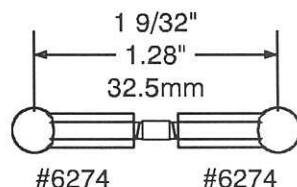
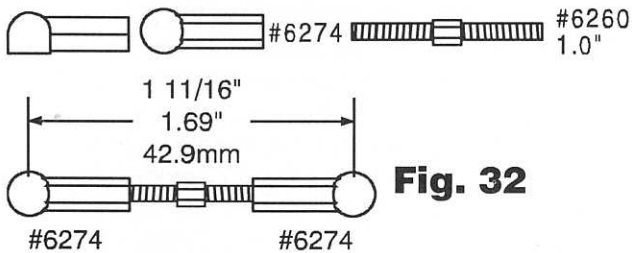

Fig. 18
Fig. 32
Figs. 18 & 19 1) In bag #8-1 you will find the two #8812 turnbuckles. 2) Now go to bag #8-14 and remove four of the #6274 plastic ball end cups. (There are a total of 14 ball end cups on the molded parts tree, as shown in the photo.) When assembled these will become the front camber links. We suggest you read instruction figs. 18-19 all the way through before beginning. 3) Now we want to thread the ball end cups onto the turnbuckles. The best way to do this is to hold the center of the turnbuckle with the #8416 shock/turnbuckle wrench. 4) The turnbuckles have left hand threads on one end and right hand threads on the other, so the cups will screw on in different directions. (This feature helps to simplify adjusting camber. After it is installed, you can turn the turnbuckle with the wrench to lengthen or shorten the camber rod without removing it.)
□ **Figs. 32 & 33** 1) Now remove the #6260 turnbuckles from bag #8-2 (the last two items in the bag). 2) You will also need to go back to bag #8-14 and remove four more of the #6274 plastic ball end cups. These turnbuckles will become the two steering tie-rods. We are again going to thread the ball cups onto the two turnbuckles. 3) The turnbuckles have both left and right handed threads on them. All adjustments are measured from the center of one ball cup hole to the center of the other ball cup hole, as shown in the drawing below. Go back to fig. 18 for procedures on putting ball cups onto the turnbuckles.